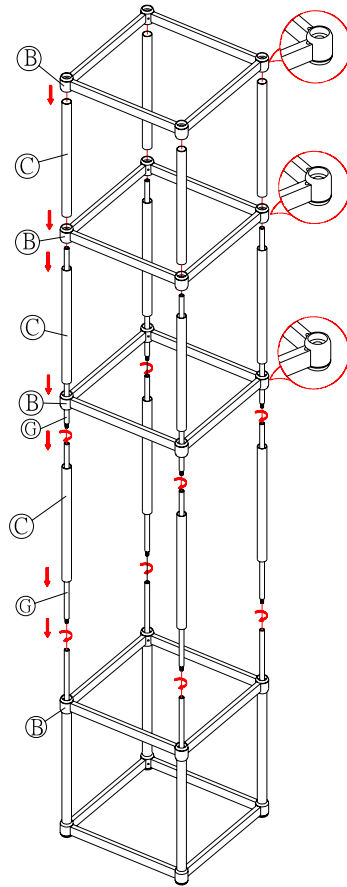

Fig. 2
3. Assemble the metal rods with 8mm thread (G) by inserting them to the ends of the assembled rods. Turn the rods in a clockwise direction until tightened. Repeat the steps with the other metal rods.
- Gently put the long metal tubes and then the middle metal frame (with the drill holes face up) into the assembled frame through the metal rods. With the metal tubes and metal frame placed alternately, repeat the steps with the other 2 sets of long metal tubes and the middle/bottom metal frames (Fig 2).